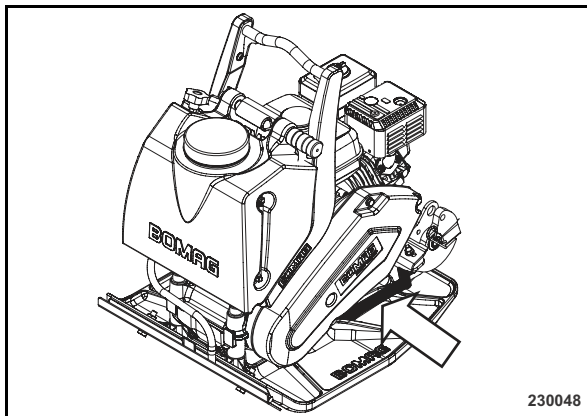

Fig. 33
**Do not use the handles (Fig. 33) on the side to lift the machine.**